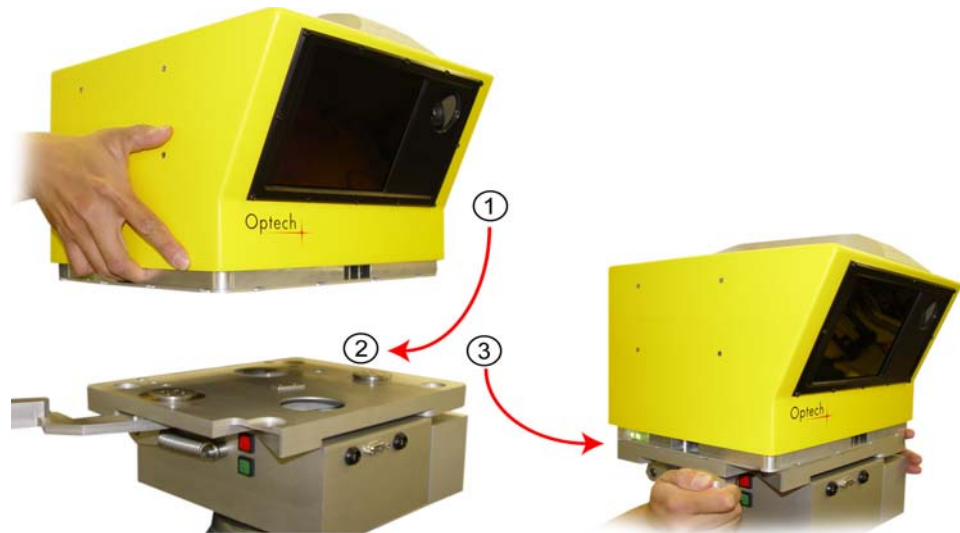

Figure 24: Securing the scanner to the pan/tilt base
5. Mount the ILRIS-3D scanner to the pan/tilt base, and secure it by swinging the lever back into place (Figure 24).